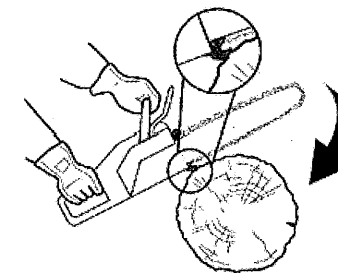

Fig. 26
5. Ensure the saw chain **(7)** is running at full speed before it makes contact with the wood. Use the spiked bumper to secure the product onto the wood before starting to cut and use it as a leverage point while cutting (Fig. 26).